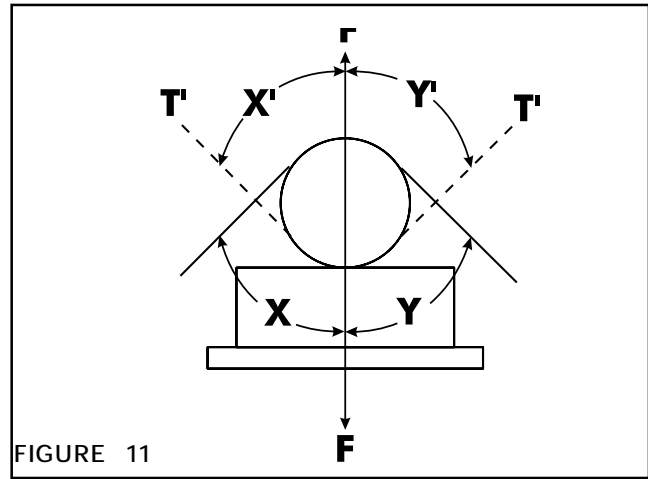
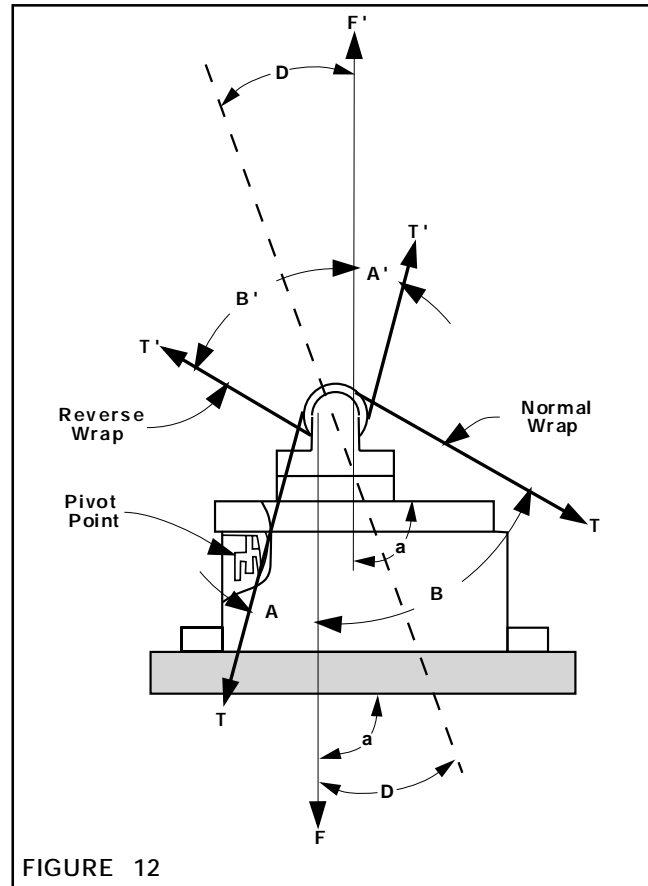

FIGURE 11
FIGURE 12
Web angle is the angle between the plane of the web as it approaches the Sensor Roll and the plane of the web as it leaves  $X + Y$  or  $X' + Y'$  (See Figure 11),  $A + B$  or  $A' + B'$  (See Figure 12). Maximum web angle is  $150^\circ$ ; minimum web angle is  $0^\circ$ .
MB Tension Sensors MB05, MB11, and MB25 may also be mounted with Reverse Wrap; i.e., the resultant force  $F'$  away from the MB Tension Sensor (See Figures 11 and 12). Web may travel in either direction.
All MB Tension Sensors may be mounted with the web angle in the Normal Wrap direction; i.e., the resultant force  $F$  is toward the MB Tension Sensors (See Figures 11 and 12).
**SYMMETRICAL WRAP** (See Figure 11)
**ASYMMETRICAL WRAP** (See Figure 12)